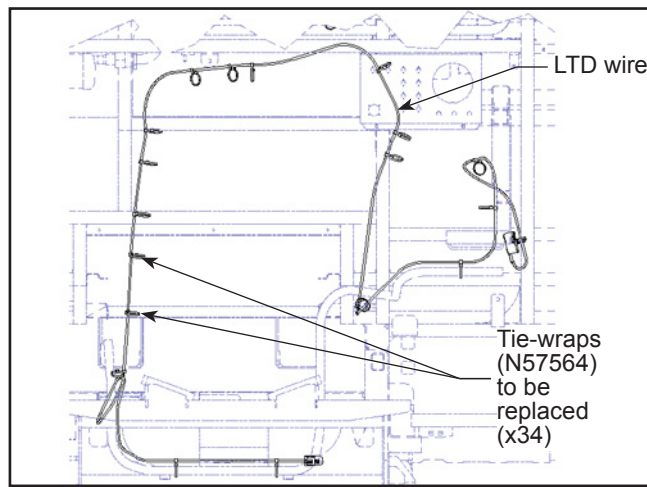

Figure 2 - Existing (N57564) Tie-Wraps
- 1.3. Visually follow the LTD wire throughout the fire suppression system in order to locate all tie-wraps (N57564) along the path of the system. See Figure 2.